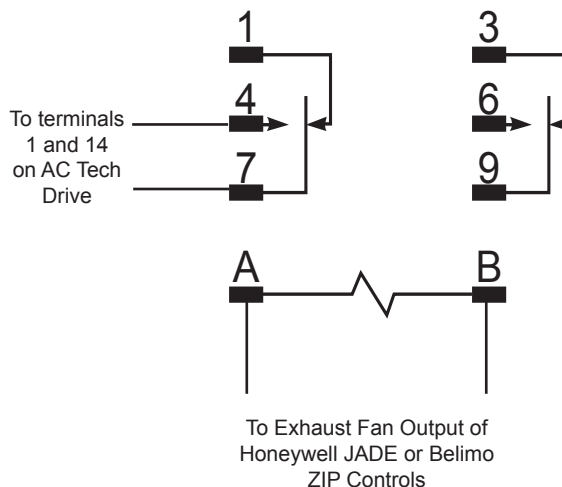

Fig. 7 - Optional Relay Connections
3. Install relay per Fig. 7 (field supplied or optional MicroMetl # 9901-0102 w/4 - 9901-0134 wire connectors) in Power Exhaust control panel or other convenient location for ON/OFF operation.